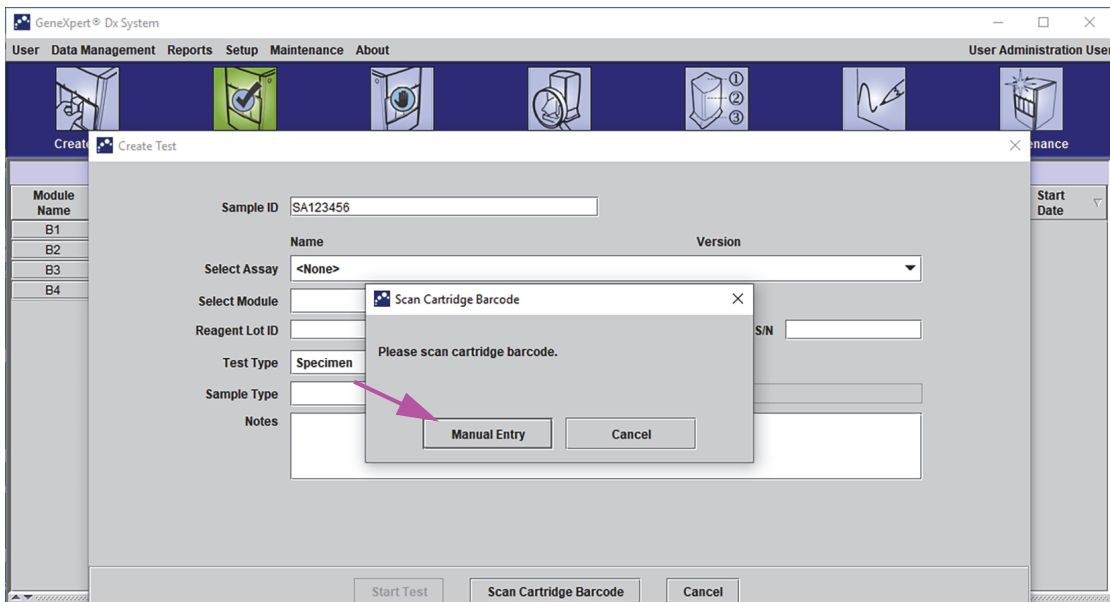

Figure 5-19. Scan Cartridge Barcode Dialog Box
2. Scan the Sample ID barcode using the supplied barcode scanner. See Section 5.6. The Scan Cartridge Barcode dialog box appears. See Figure 5-19.